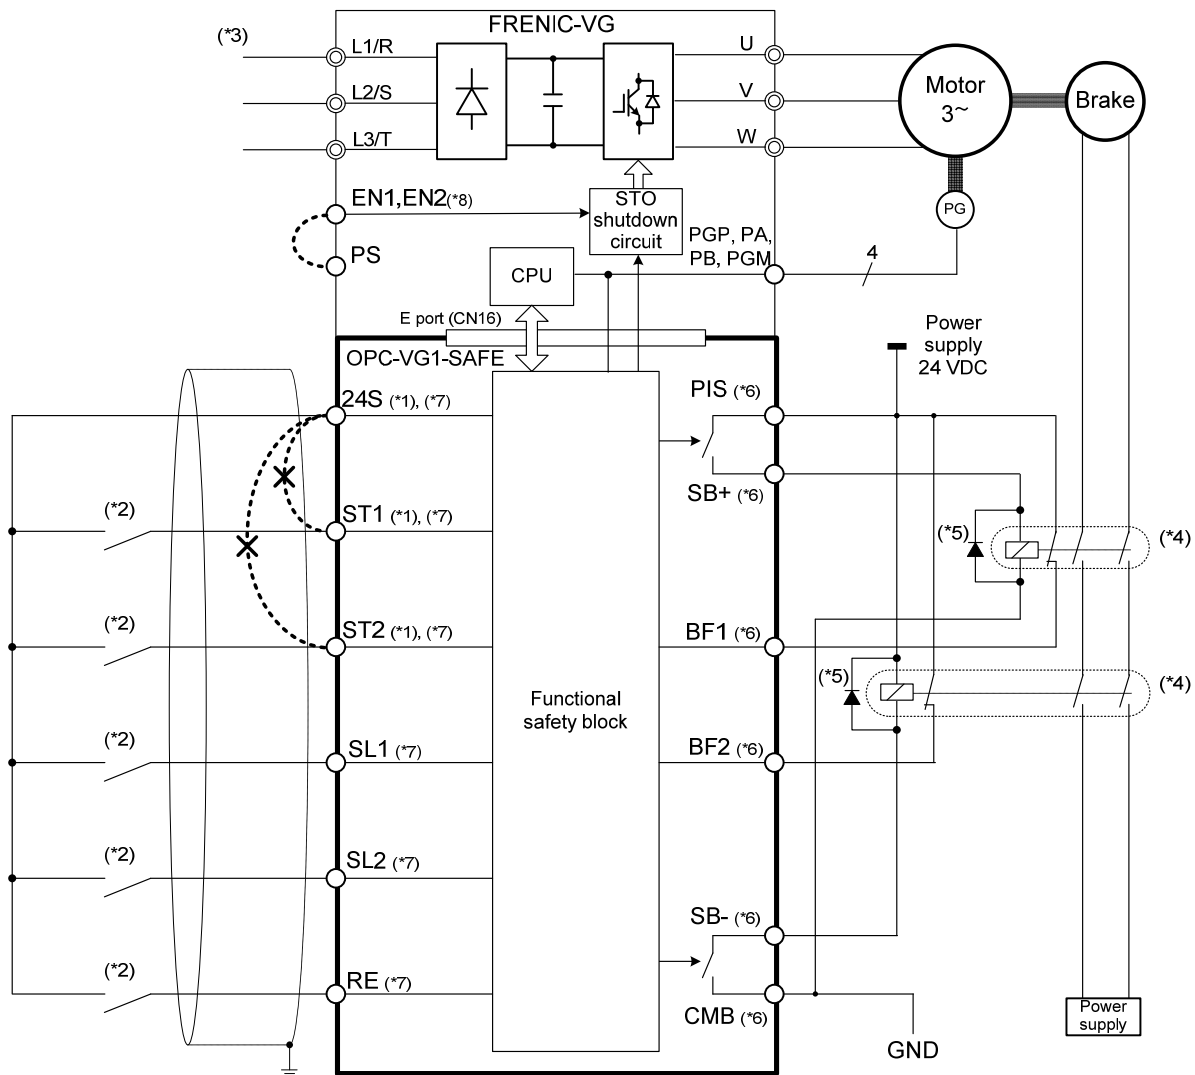

Figure 2.1 Wiring Diagram (when SF24 = 1)
- (*6) When SF24 = 1, make wiring as shown in Figure 2.1.